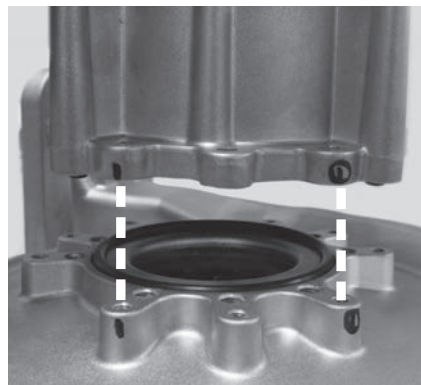

Figure 106 - Proper venturi and fan alignment
17 Install the new venturi to the fan. Reference the orientation mark on the old venturi to position the new venturi properly as shown in Figure 106. Use the screw hole marks on the fan to properly install the four (4) screws previously removed in **Step 13**.